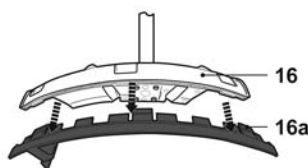

Fig. 5
- > In brushcutter mode, unclip the edge piece [16a] from the guard [16], unscrewing the screw [16b] and pressing the three tabs with the aid of tool (Fig. 5).